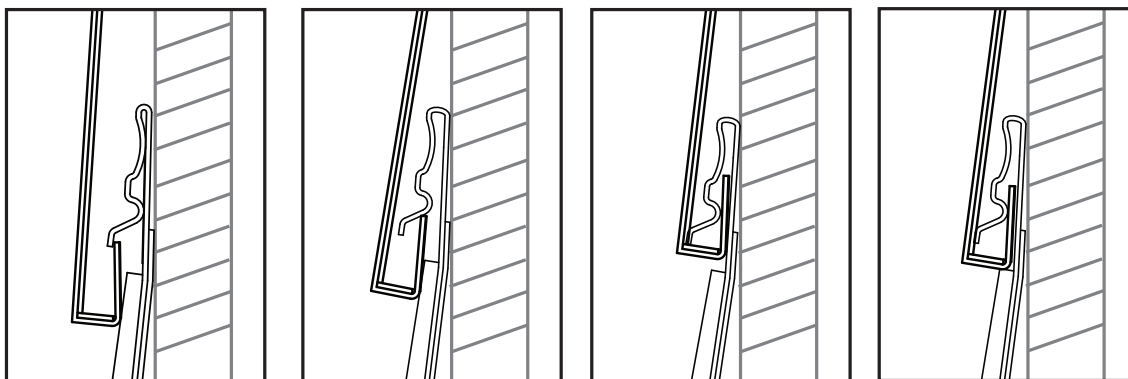

FIGURE 2
- When installing a siding panel, push up from the bottom until the lock is fully engaged with the piece below it. The panels should not be under tension or compression when they are fastened. Allow the butt edge to rest on the top edge of the course below (**FIG 2**).